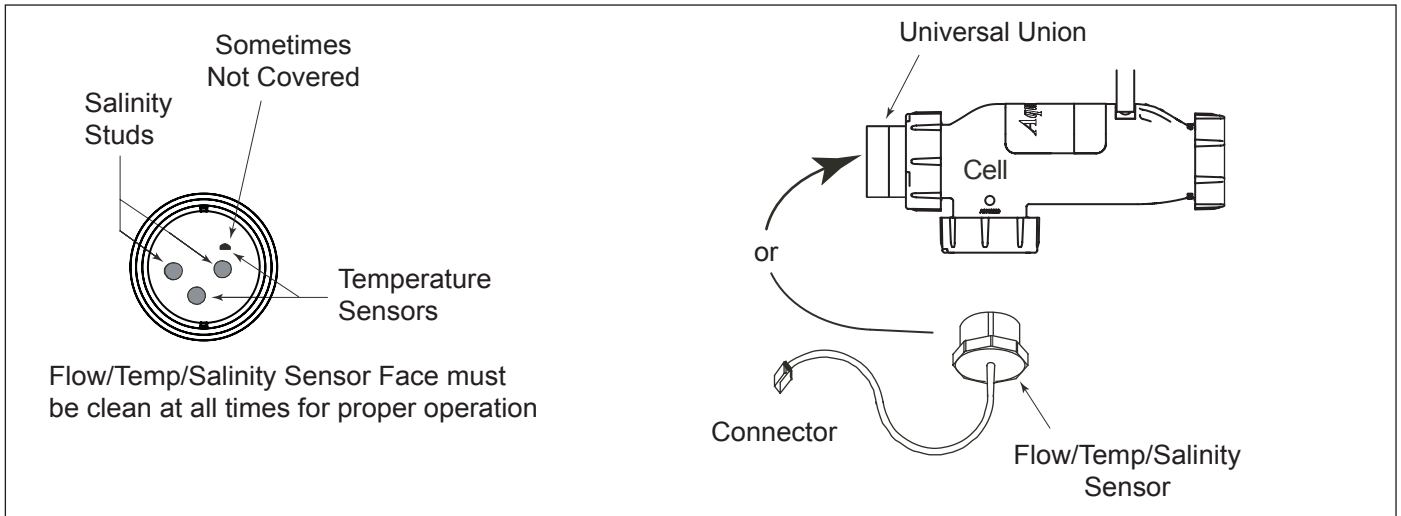

Figure 9. Flow/Temp/Salinity Sensor
- Mount as shown in Figure 9. This will result in the most reliable operation.
- (1) in the same line as the Electrolytic Cell.
- (2) with no valves or diverters between the Flow/Temp/Salinity Sensor and Cell.